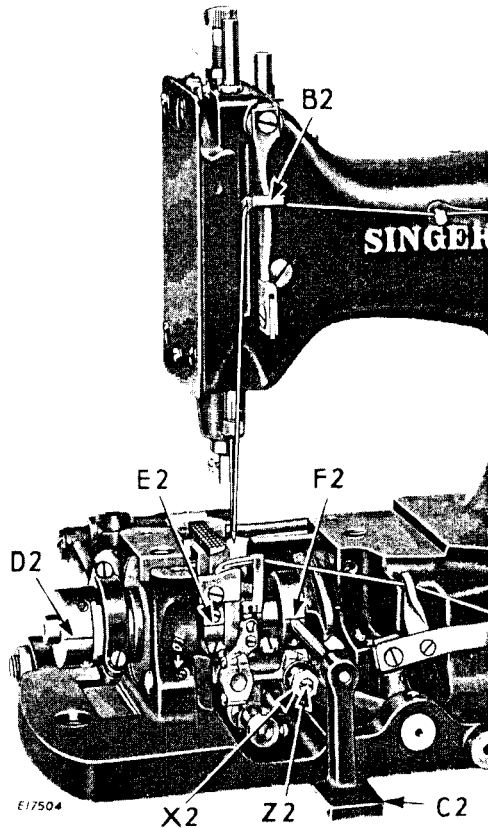

Fig. 10. Timing the Machine—(Using Gauge 130905)
**CAUTION:** When retightening needle bar clamping screw, be sure that the thread take-up **B2**, Fig. 10 centers in its slot in the machine head and does not scrape against either side of this slot. Replace face plate gasket and face plate.
Next place gauge 130905 **C2**, Fig. 10, which is furnished for this purpose, on the table to locate the timing marks on the three eccentrics all in exact alignment with each other, as shown at **D2**, **E2** and **F2** in Fig. 10.
When the needle bar is at the bottom of its stroke, point of looper should be approximately  $1\frac{1}{2}$  inch from center of needle. To adjust, loosen nut, **X2**, Fig. 10 and turn eccentric ball stud **Z2**, Fig. 10 to set the looper correctly with relation to the needle, then securely tighten nut **X2**.